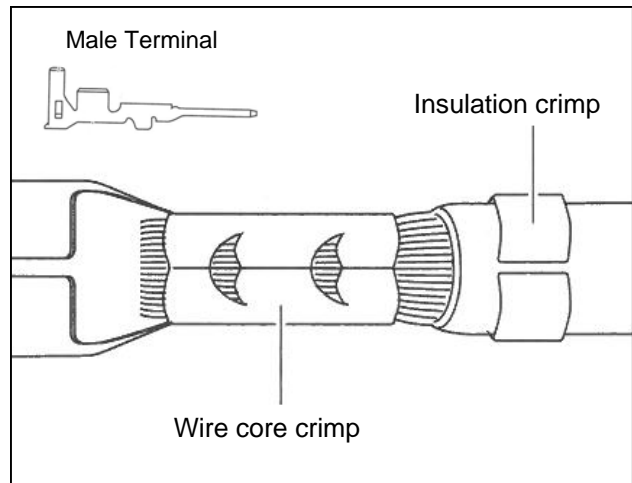

Fig. 10
20. **See Fig 10.** Match up wires as shown for Renegade models. Install crimped terminals into female connector. Plug light bar extension harness into main body harness.